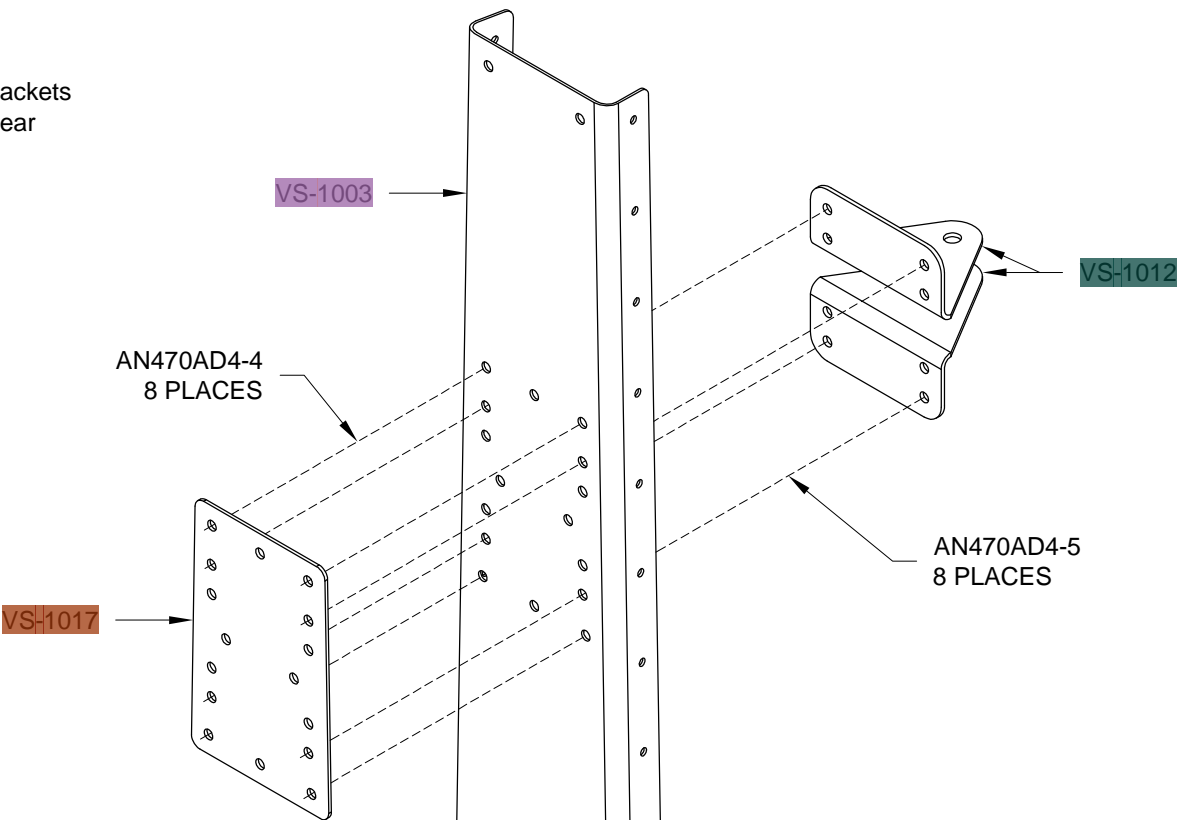

FIGURE 2: TOP RUDDER HINGE BRACKET AND HINGE DOUBLER RIVETS
Step 6: Reassemble the rest of the Rear Spar Assembly (except for the **VS-01010-1** Bottom Rudder Hinge Bracket) as shown on Page 6-2, Figure 2. Make sure the countersunk holes at the bottom of the **VS-1008** Rear Spar Doubler are facing forward.